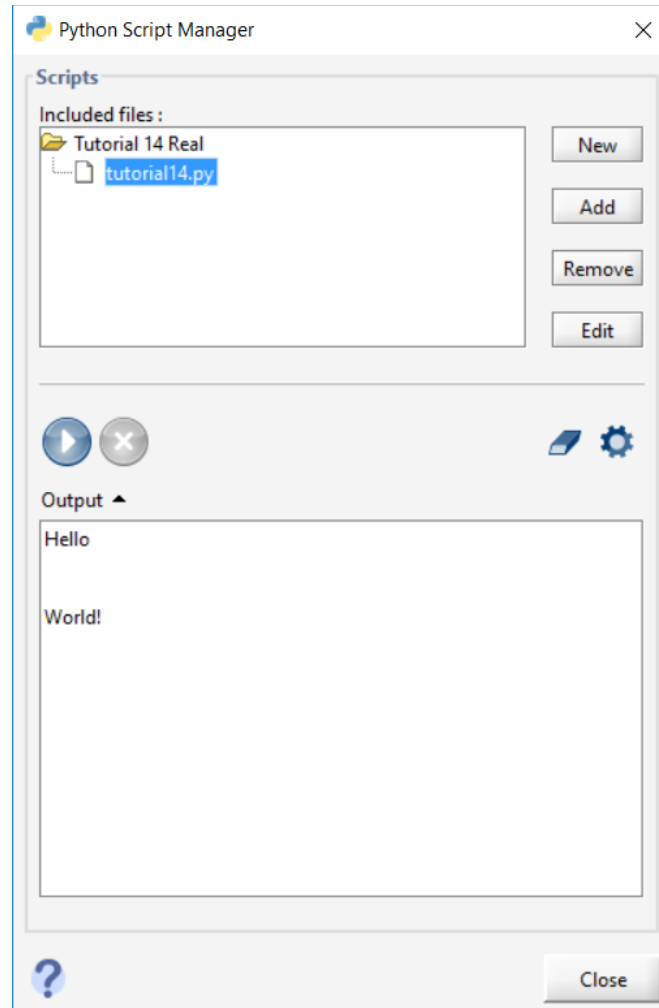

Figure 14-8 - Results of Running the Python Script
10. The results of the script appear in the Output pane of the Python Script Manager, which can be accessed by pressing the Output button. The results of the simulation can be seen in **Figure 14-8**. “Hello” is the first output in the output pane and it appears only a single time. The output “Hello” appears first because the start function is called immediately when a simulation begins. The start function is not called again during the simulation, so “Hello” will only appear a single time. Likewise, “World” only appears a single time at the end of the output due to the eor function only being called once at the end of the simulation.